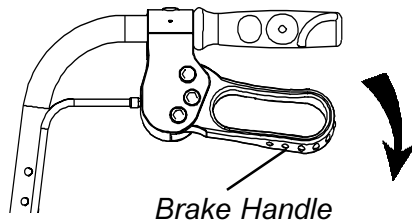

FIGURE 10 - LOCKING HAND BRAKES
Locking Hand Brakes (FIGURE 10)
1. Push DOWN on the bottom portion of the brake handle as shown in FIGURE 10 until an audible “click” is heard.